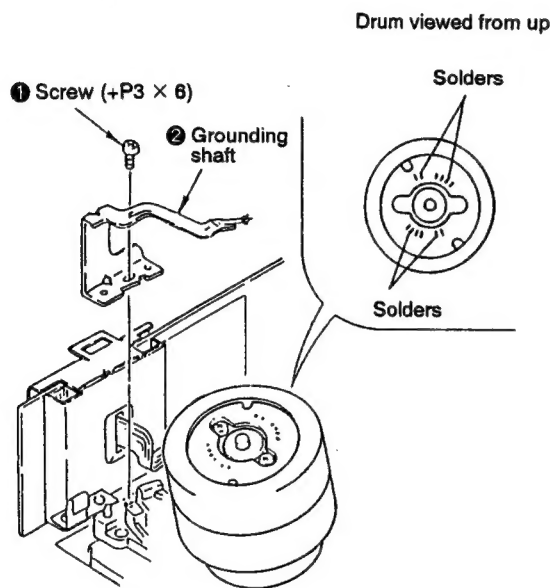

Fig. 4.
- 1) Remove the screw ① (+P3 × 6) and take out the grounding shaft ②. (See Fig. 4.)